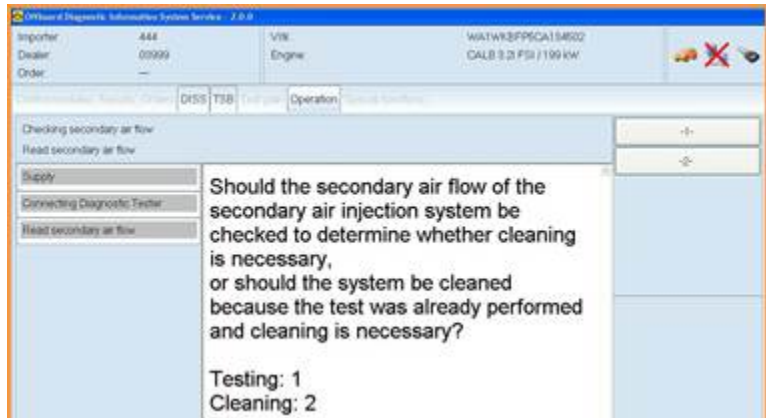

Figure 3. Select -1- for testing.
2. Select -1- for testing (Figure 3). No actual test needs to be run; data is already stored from last cold start in the ECM. This data will determine the level of restriction.